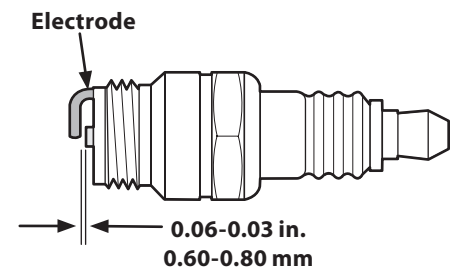

Figure 6-4
6. Measure the plug gap with a feeler gauge. Correct as necessary by bending side electrode. See "Figure 6-4". The gap should be set to 0.030 in. (0.76mm).